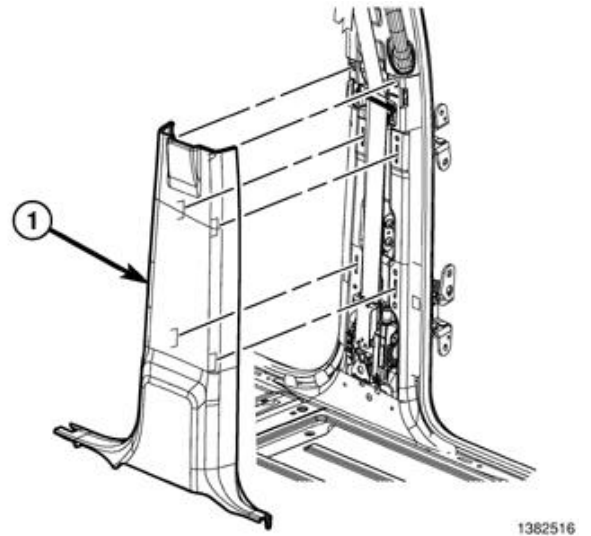

Figure 25 – B-Pillar Lower Trim Panel
10. Release the retaining clips and remove the B-pillar lower trim panel to allow for removal of the B-pillar upper trim panel (Figure 25).
- 65. Position the B-pillar lower trim panel and engage the retaining clips fully (Figure 25).